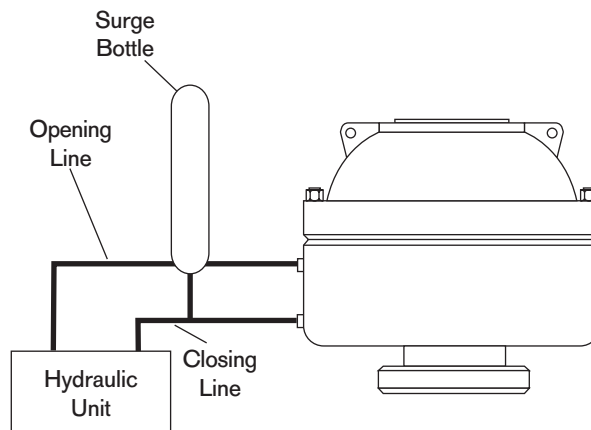

Figure 3-5. Spherical Installation Hookup
A BOP hydraulic control system is required to actuate the Spherical. The hookup required for basic operations is shown in Figure 3-5 below. A hydraulic regulator is required to prevent the operating pressure from exceeding the recommended closing pressure [1,500 psi (103 bar)] and allows application of lower operating pressures when stripping or when closing on large diameter casing.
- ❑ Accumulator surge bottle in the closing line adjacent to the Spherical during stripping (see Figure 3-5 on page 3-7).
Each Spherical BOP is equipped with at least one hydraulic port for the closing chamber and one hydraulic port for the opening chamber. The opening port is always the uppermost port. Refer to the "Accumulator Kits" table below for the quantity of hydraulic ports for each bore size. The location of the ports is shown in Figure 3-5 on page 3-7.